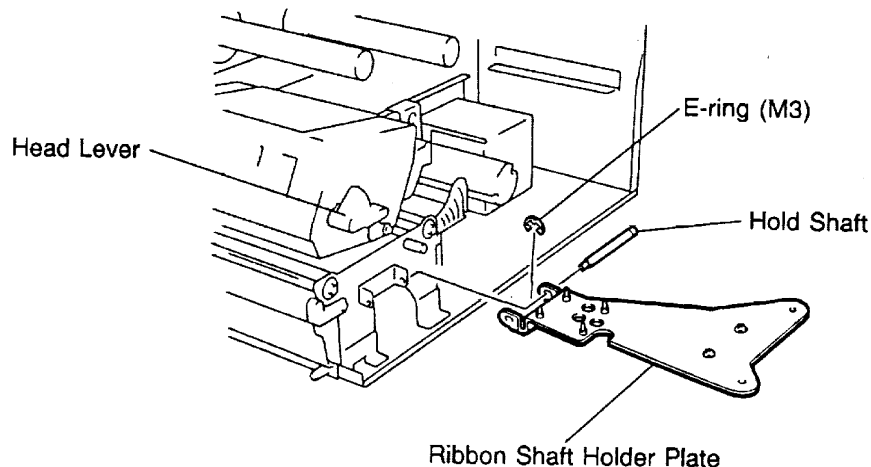

Fig. 2-17
- 1) Disconnect the connector for the strip sensor (LED) to remove right plate Ass'y. (See Figs. 2-17 and 2-18.)